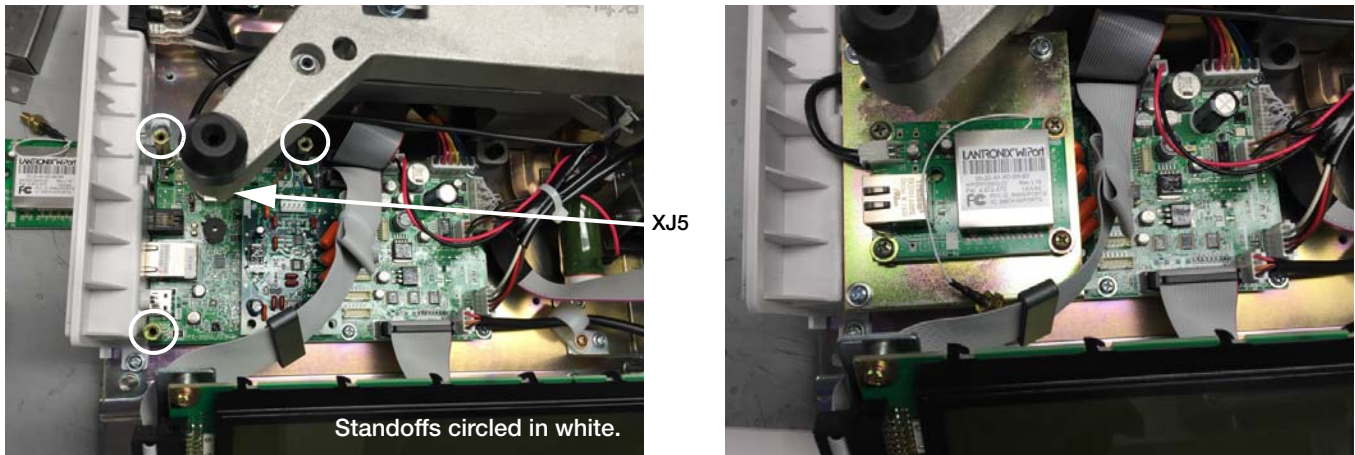

Figure 2. Plug XJ5 into WiPort
5. Remove the three screws securing the CPU board and replace with the included standoffs (locations circled in Figure 2). Save the screws for later use.